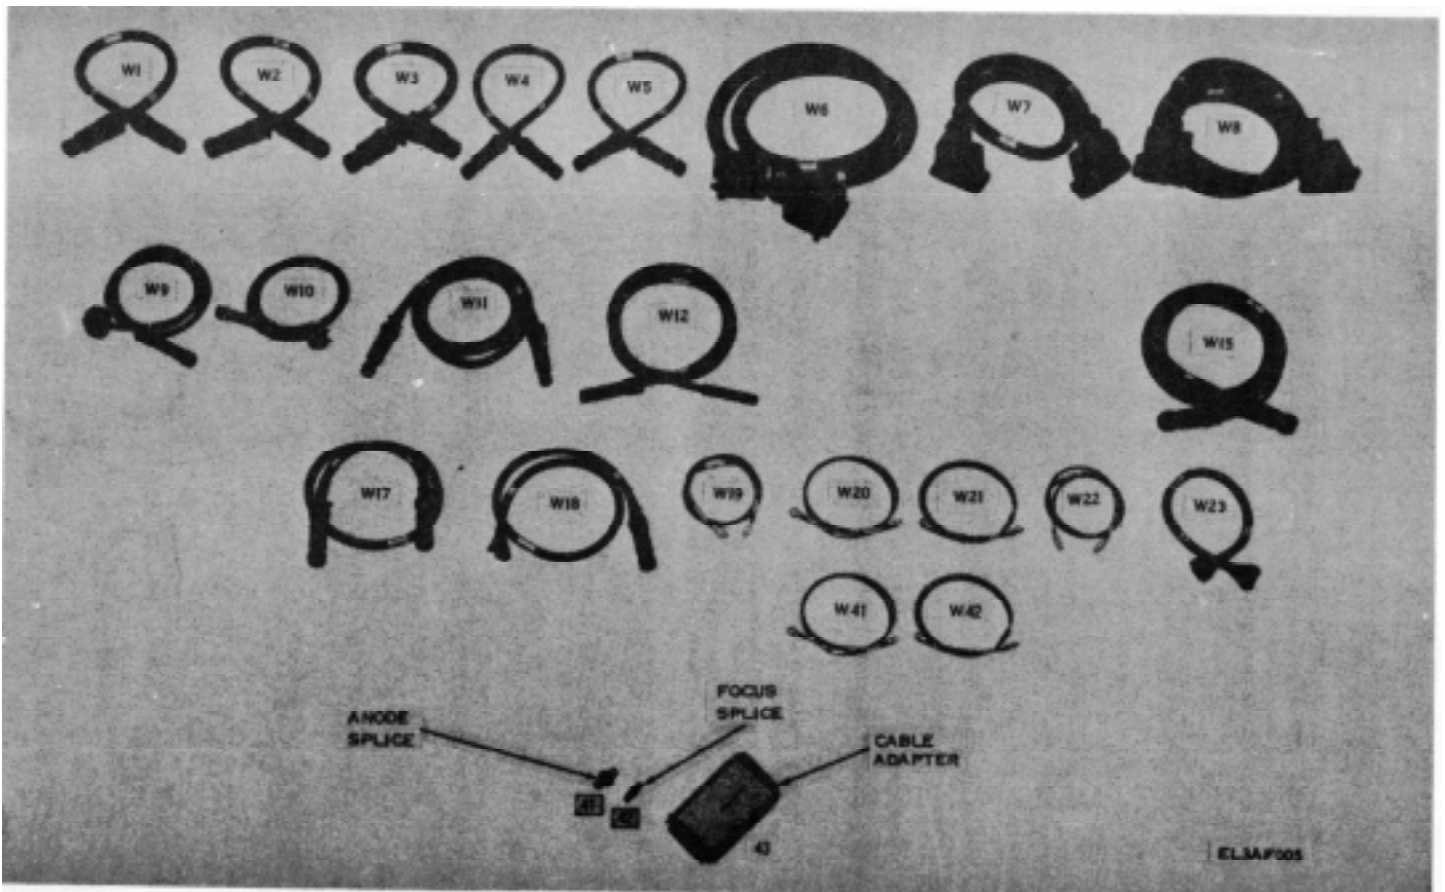

Figure 1-5. Test Set Subassembly MX-8639A/APS-94D cables, cable adapter, and high voltage splices.
(fig. 1-5) are identified as follows: the cable designator (W1, W2, etc) is stencilled on the cable midpoint between the cable connectors. The cable connectors (P1, P2) are identified by metal bands around the cable ends; and the short form nomenclature, cable reference designation, and manufacturer's part number appear on metal bands encircling the cable at its middle. Table 1-4 lists the cables by reference designation and nomenclature, and also gives mating connector information.
*g. Cable Adapters.* Cable W8 adapter (MX-8742/ APS-94D) (fig. 15) provides the physical clearance required to permit electrical connection of cable W8 to receptacle X9P1 of Generator, Sweep SG-1127/APS-94E and to plug P1 of Control, Radar C-7645/APS-94D. Cable W6 adapter (MX-8794/ APS-94D) (fig. 1-5) provides the physical clearance required to permit electrical connection of cable W6 to plug P1 of Generator, Sweep SG1127/APS-94E.
*h. Anode Splice.* The anode splice (fig. 1-5) permits connection of cable W39 to anode connector J1, J2, or J3 of power supply module 10A1A5 in Recorder-Processor-Viewer, Radar Mapping RO-495/U.
*i. Focus Splice.* The focus splice (fig. 1-5) permits connection of cable W40 to focus connector J4 or J5 of power supply module 10A1A5 in Recorder-Processor-Viewer, Radar Mapping RO-495/U.